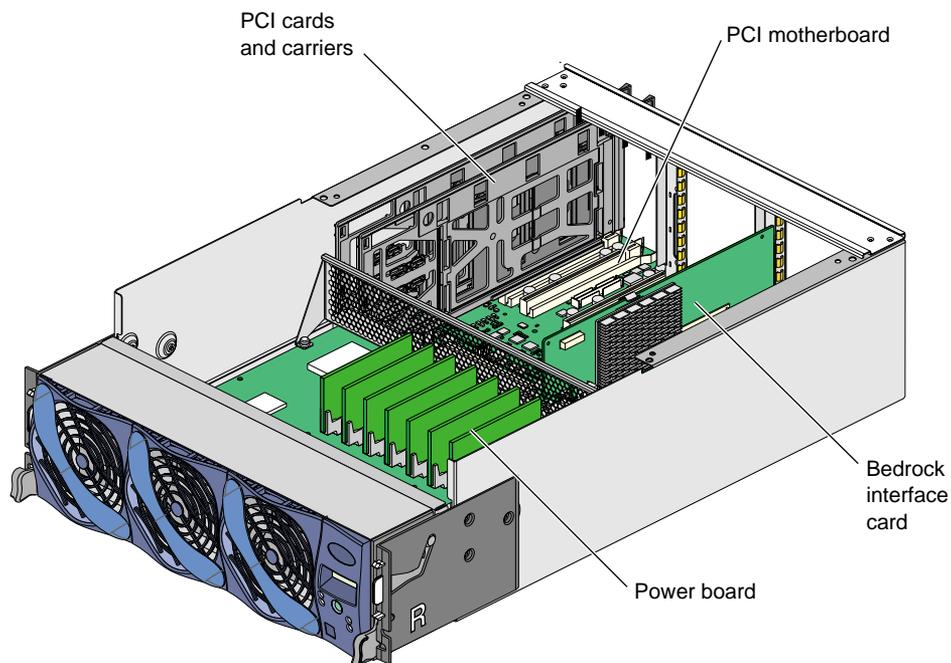

Figure 3-8 Internal View of PCI Expansion Module
The PCI expansion module contains the following internal components (refer to Figure 3-8):
- L1 controller logic (not shown in Figure 3-8)
The power board installs horizontally in the front of the module and plugs into the PCI motherboard (refer again to Figure 3-8 on page 41).